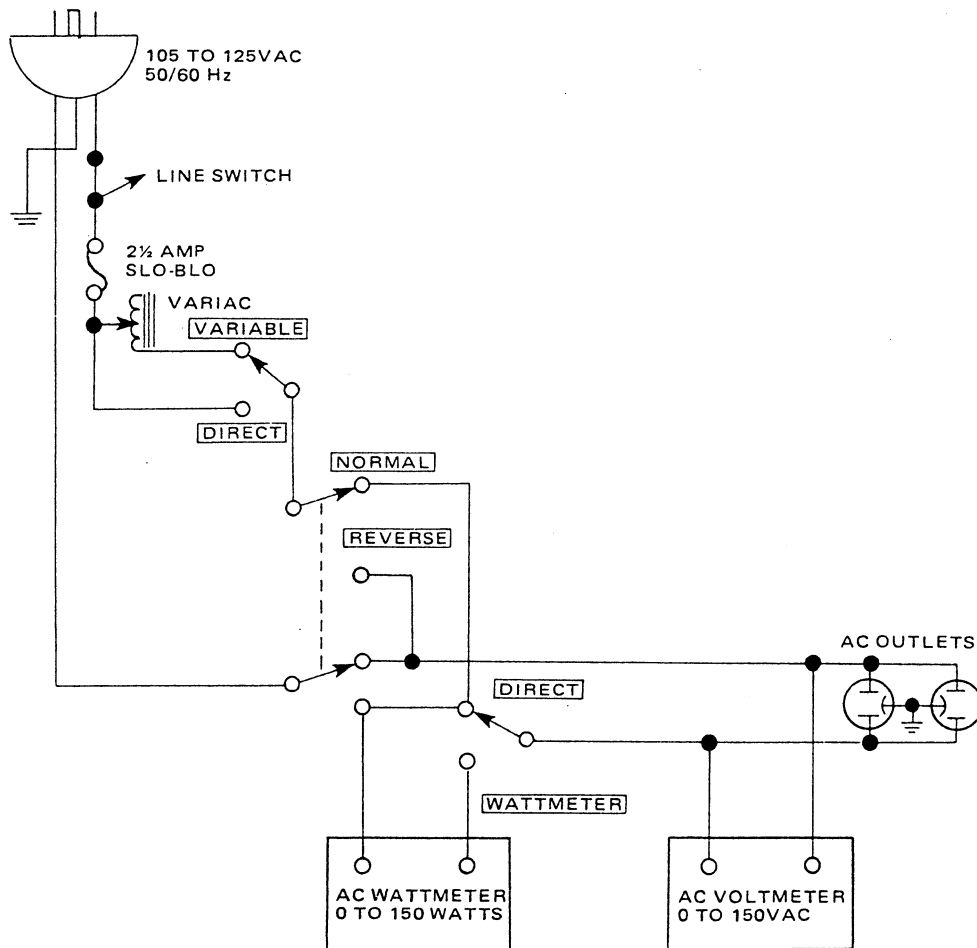

Figure 1. AC Power Control Box Simplified Schematic
Table 1 lists the test equipment required for servicing the Model 1050/1072 Stereo Console Amplifier. The wattmeter, AC voltmeter, and variable autotransformer may be assembled as a test fixture as shown schematically in Figure 1. The load resistors and AC ammeter may be assembled into a second test fixture as shown in Figure 2.
1. Make the test setup shown in Figure 1 with the instrument controls set in the following positions: